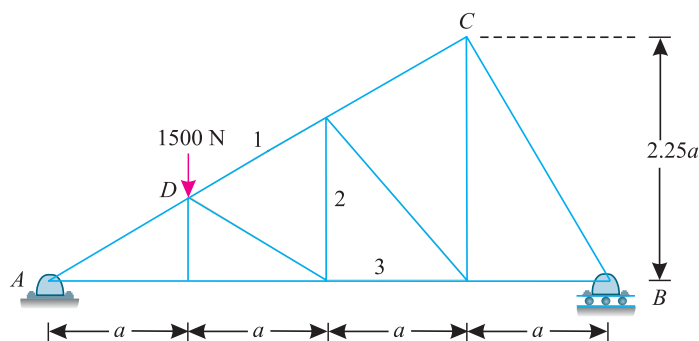

Fig. 13.13.
**Example 13.3.** A plane is loaded and supported as shown in Fig 13.13.